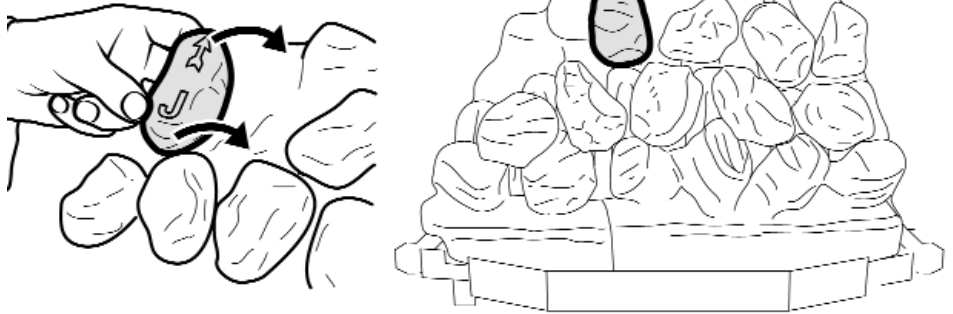

Figure 12. Second row "Coal J"
**13.** Hold coal 'J' upright with the arrow pointing to the top. Locate coal 'J' as shown in figure 12.